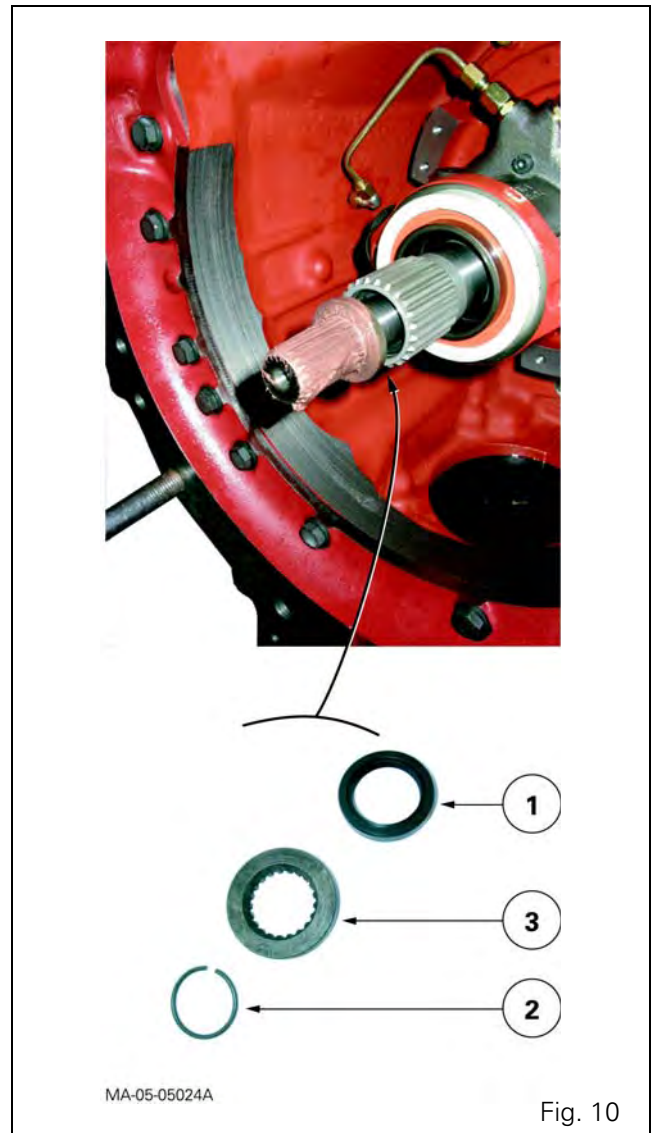

Fig. 10
25. Refit the PTO shaft (Fig. 10 and chapter 2).